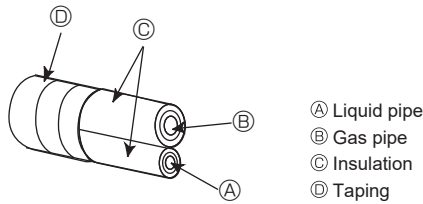
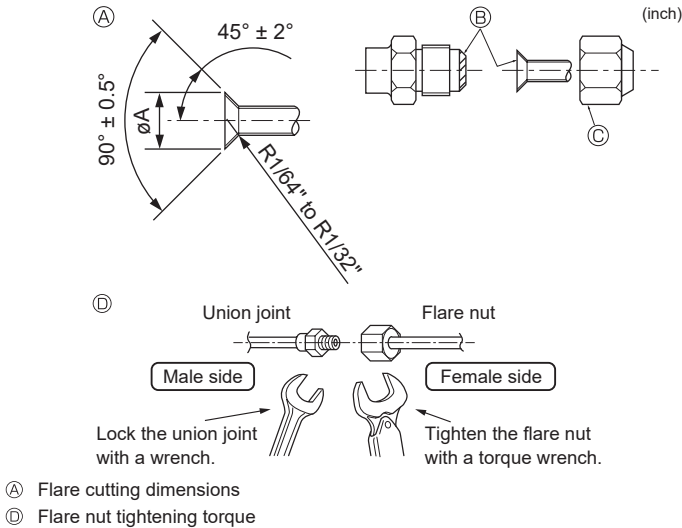

Fig. 4-5
Fig. 4-6
(A) (Fig. 4-6)
4.3. Connecting pipes (Fig. 4-5) (Fig. 4-6)
- [Fig. 4-6]
- Apply thin layer of refrigerant oil to pipe and joint seating surface before tightening flare nut. (A)
- Apply refrigerating machine oil over the entire flare seat surface. (B)
- Use the flare nuts as follows. (C)
- Use 2 wrenches to tighten piping connections. (D)
- ① Pipes must be connected starting from the indoor unit. Flare nuts must be tightened with a torque wrench.
- ② Flare the liquid pipes and gas pipes and apply a thin layer of refrigeration oil (Applied on site).